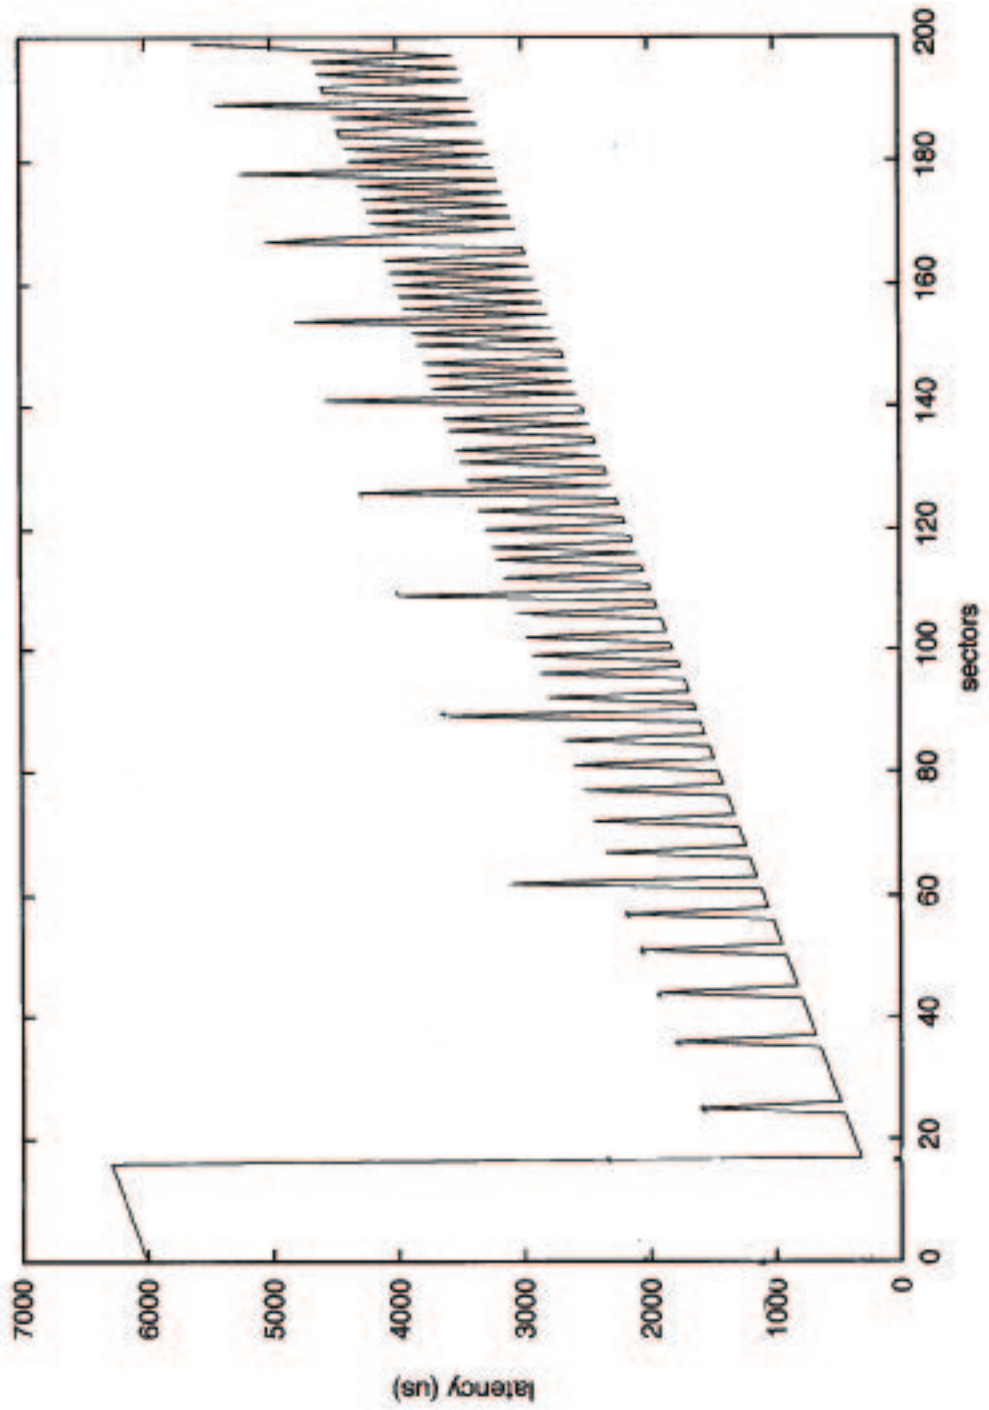

Figure 1: *Skippy results for problem 1*
- (b) Refer to Figure 1, which shows the result of simulating the Skippy experiment on a disk simulator. Label this graph with the following values: rotational latency, MTM, sectors per track, number of heads, head switch time, and cylinder switch time. Also label the head and cylinder switches. Make sure you mark the parts of the figure that indicate these values.
- (c) How would Figure 1 change, if the disk were replaced with one that has a higher rotation speed, but is the same in every other respect?